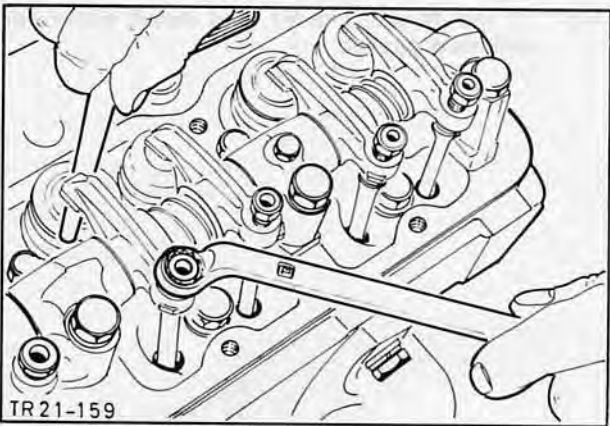

Fig. 94. Adjust valve clearance
72. Adjust valve clearance Fig. 94 (see Operation 21-213), cranking engine **only** in direction of rotation.